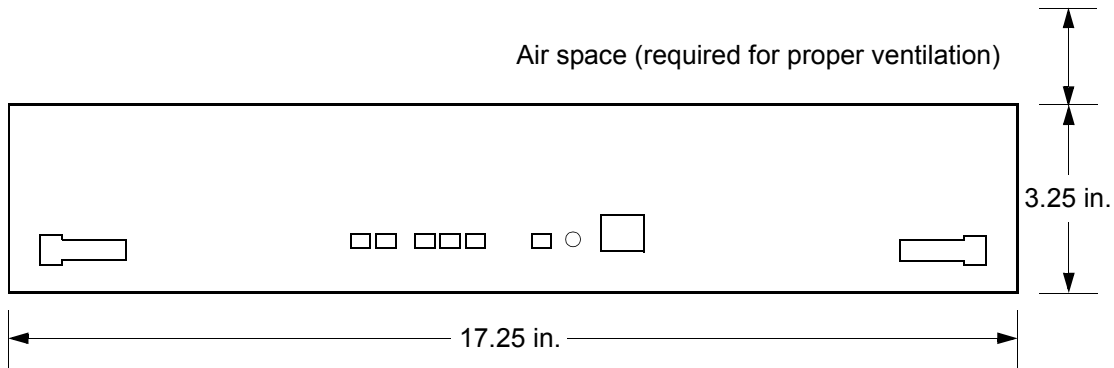

Figure 1-2. Shelf
The shelf (Figure 1-2) occupies two rack mounting units (RU), and can be mounted in a 19 inch rack or a 23 inch rack. One RU (1.75 in.) of air space above the TimeSource 3500 is required for proper ventilation. Other than a communications connector on the front panel, all connectors are at the rear of the shelf.